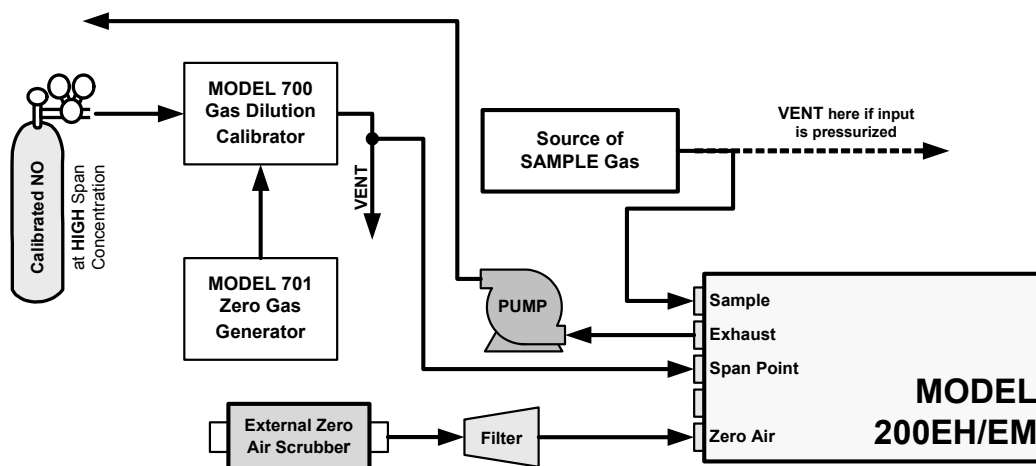

Figure 3-11: Pneumatic Connections–With Zero/Span Valve Option (50)
If your analyzer is equipped with either the zero/span valve option (50) or the 2-span point valve option(52), the pneumatic connections should be made as shown in figures 3-11 & 3-12: